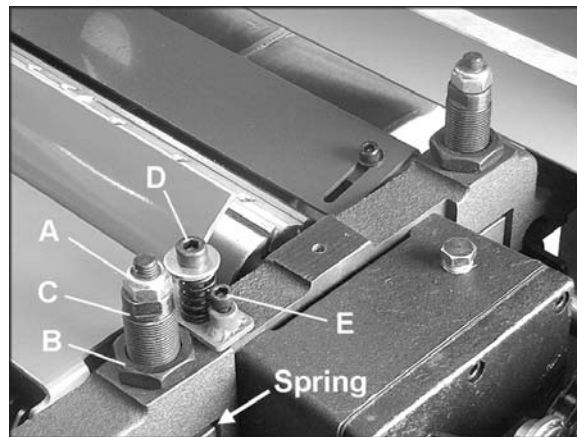

Figure 15
2. Move the gauge to the extreme right end of the infeed roller and check the measurement. It should be 1/16" below the knife measurement. If it is not, loosen the nut (B, Fig. 15), place a wrench upon the flats of the screw (C, Figure 15) and turn the screw as needed, to raise or lower the infeed roller at the right end.
2. Notice that as the spring tension is adjusted, the infeed roller moves up or down. This will affect the height of the roller which was previously set. After tensioning is done, the height adjustment elements (B & C, Figure 15) should be re-adjusted to counteract the
3. **The spring which is located above the bushing block (see Figure 15) must not be compressed too tightly**, as this will restrict movement of the infeed roller and may cause machine damage due to flexing of the roller. Lift up the infeed roller with your hand – there should still be sufficient travel in the infeed roller.
The chipbreaker is factory adjusted to be 1/32" below the cutting arc of the knives. Tension is adjusted by the screw and spring (D, Fig. 15). The height is adjusted with the socket head screw (E, Fig. 15).